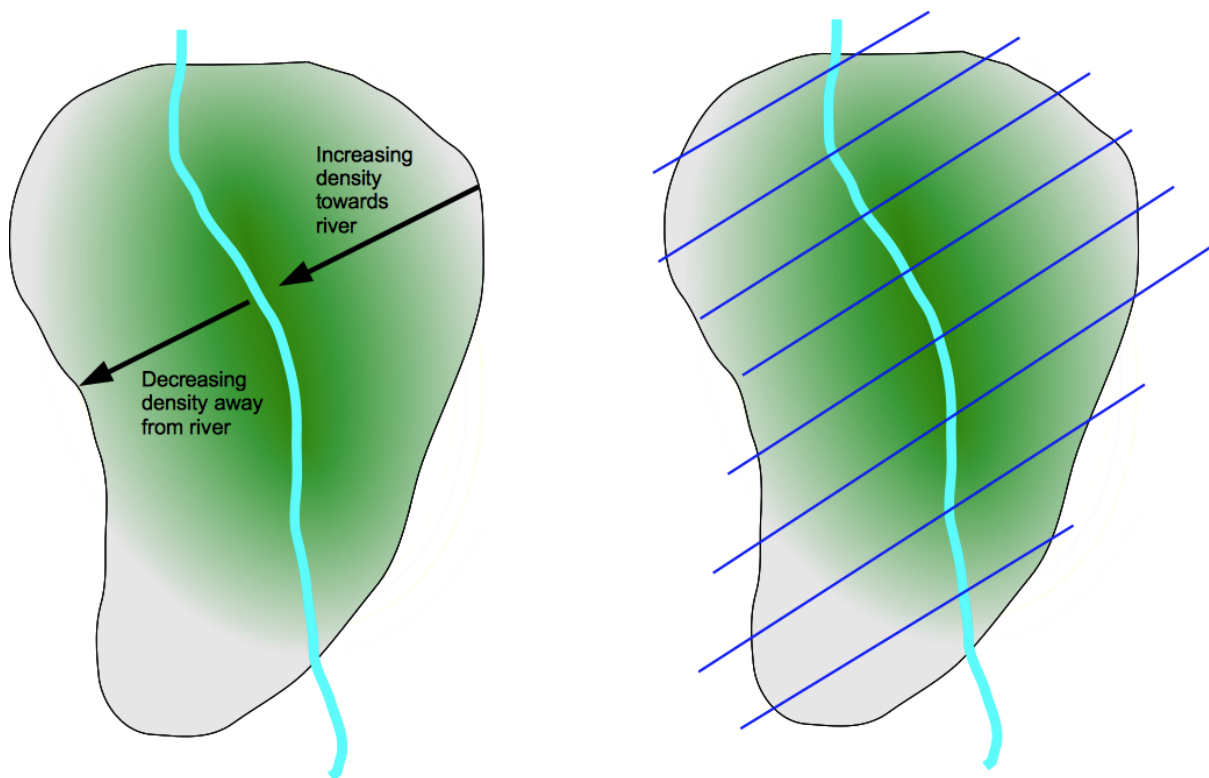

Figure 5: Orient transects perpendicular to ecological or density gradients.
3. Transects should cut across ecological gradients or gradients of known wildlife density (Figure 5).
- **Transects should cut across ecological or density gradients:** precision partly relies on having the same number of animals in every transect, so it is better to sample from one density to another in each transect, if possible (Figure 5).